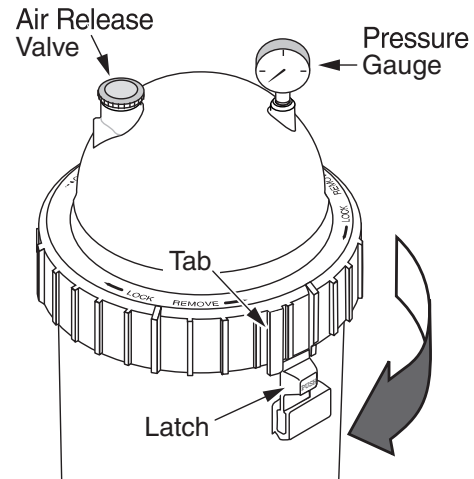

Figure 3 – Rotate Posi-Ring® until tab locks behind the safety latch.
- Securely lock the Posi-Ring® in place by rotating it CLOCKWISE until it “clicks” past the safety latch (see Figure 3). Stop turning as soon as the ring clicks past the latch. The ring may feel slightly loose, but it will tighten up when pump is on and filter is under pressure.
- Install the pressure gauge and the air release valve (See Figure 3) on the tank lid.
- Rotate the Posi-Ring® clockwise until it locks behind the safety latch (see Figure 3).